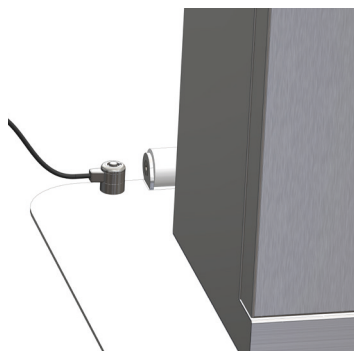

fig. 2
- To use the supplied anti-theft protection, simply insert the lock into the opening provided in the base plate and lock it by turning it using the supplied key (fig. 2 & 3).